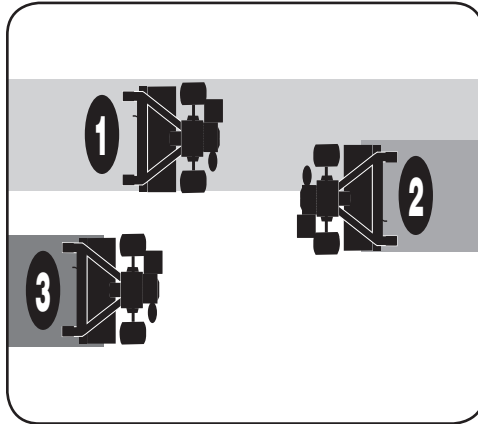

Figure 4-8
- If the garden size will not permit lengthwise and then crosswise tilling, then overlap the first pass by one-half a tiller width, followed by successive passes at one-quarter width. See Figure 4-8.